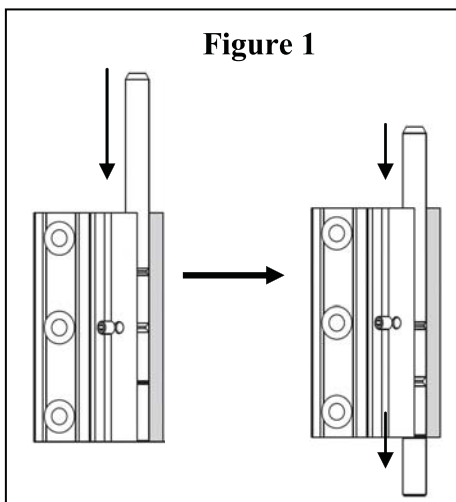

Figure 1
- b. It is helpful to lower the bottom hinge pin slightly as **shown in Figure 1**. This will allow the bottom of the door panel to slide into position over top of the bottom hinge while the top is already engaged.